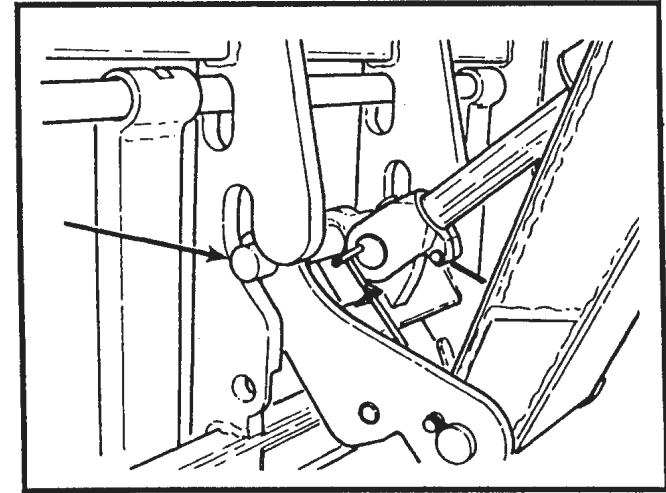

Figure 15-3. Disengaging upper quick-attach mounting pins.
3. Move the Tilt Control Lever forward as if tilting the carriage forks down slightly. Then move the Boom Control Lever forward to lower the boom until the quick-attach apron's upper mounting pins have moved downward and out of the slots on the carriage. Refer to Figure 15-3.
2. Maneuver the lift truck and boom so that the quick-attach apron's upper mounting pins can enter their slots on the carriage. Refer to Figure 15-3.